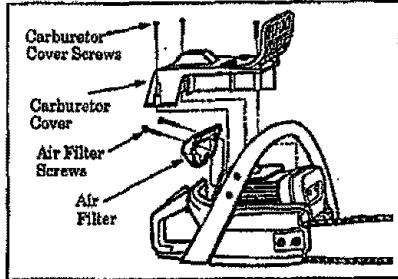

Figure 42
2. Remove the carburetor cover screws and carburetor cover. Figure 42.
3. Remove the Air Filter screws. Figure 42.
4. Pull out the air filter. Figure 42.